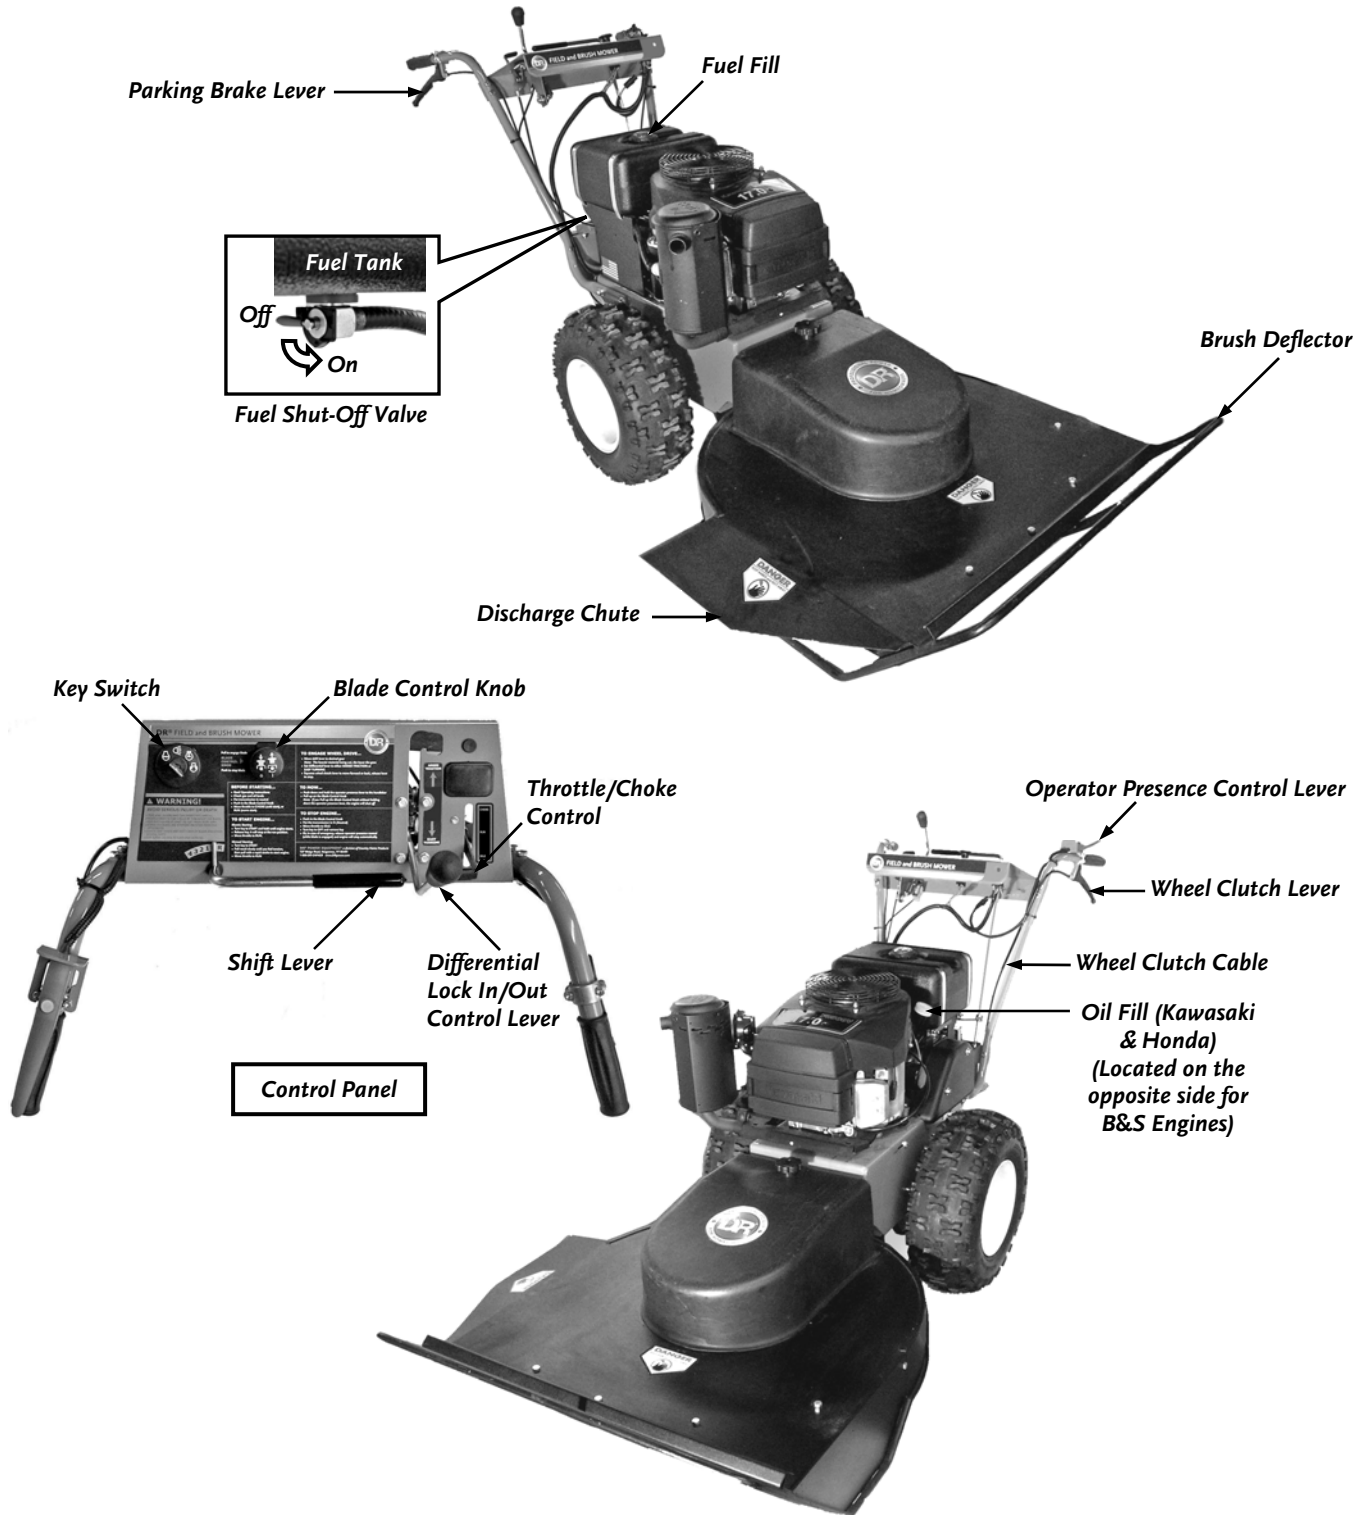

Figure 1
It may be helpful to familiarize yourself with the controls and features of your DR FIELD and BRUSH MOWER as shown in Figure 1 before beginning these procedures. If you have any questions at all, please feel free to contact us at www.DRpower.com.
1. Place the machine on a level surface and initially add 1/2 of the SAE 30 high detergent oil recommended by the Engine manufacturer into the Oil Fill (**Figure 1** on page 8) and wait one minute for the oil to settle.
4. Open the Fuel Shut-Off Valve, which is located on the bottom of the Fuel Tank and accessed from the rear (**Figure 1**), if your model is equipped with one.
This chapter covers the procedures for starting and stopping your new DR FIELD and BRUSH MOWER and discusses basic operation features. You may find it helpful to review the DR FIELD and BRUSH MOWER Controls and Features in **Figure 1** on page 8 before reading this chapter.
3. Open the Fuel Shut-Off Valve, which is located on the bottom of the Fuel Tank and accessed from the rear (**Figure 1** on page 8), if your model is equipped with one.